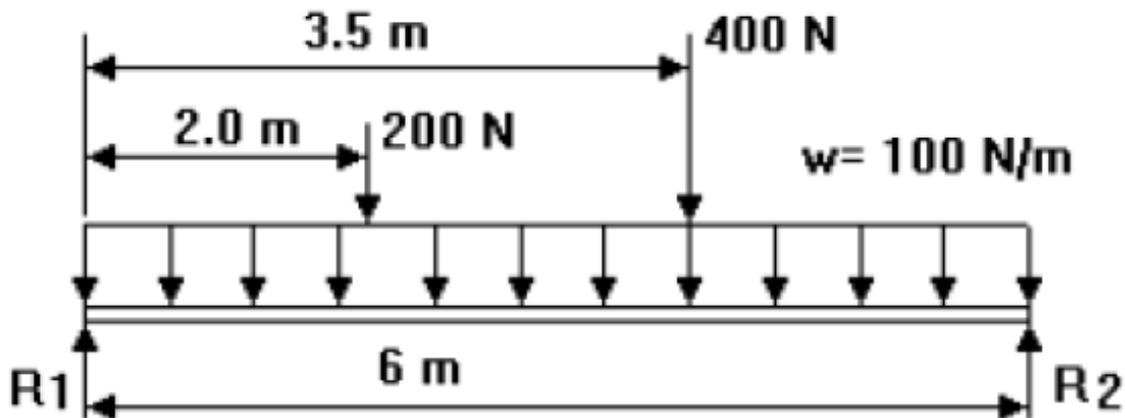

Fig.Q5
5. A simply supported beam carries two concentrated lateral loads and a uniformly distributed load over its entire length as shown in **Fig.Q5**. Determine: